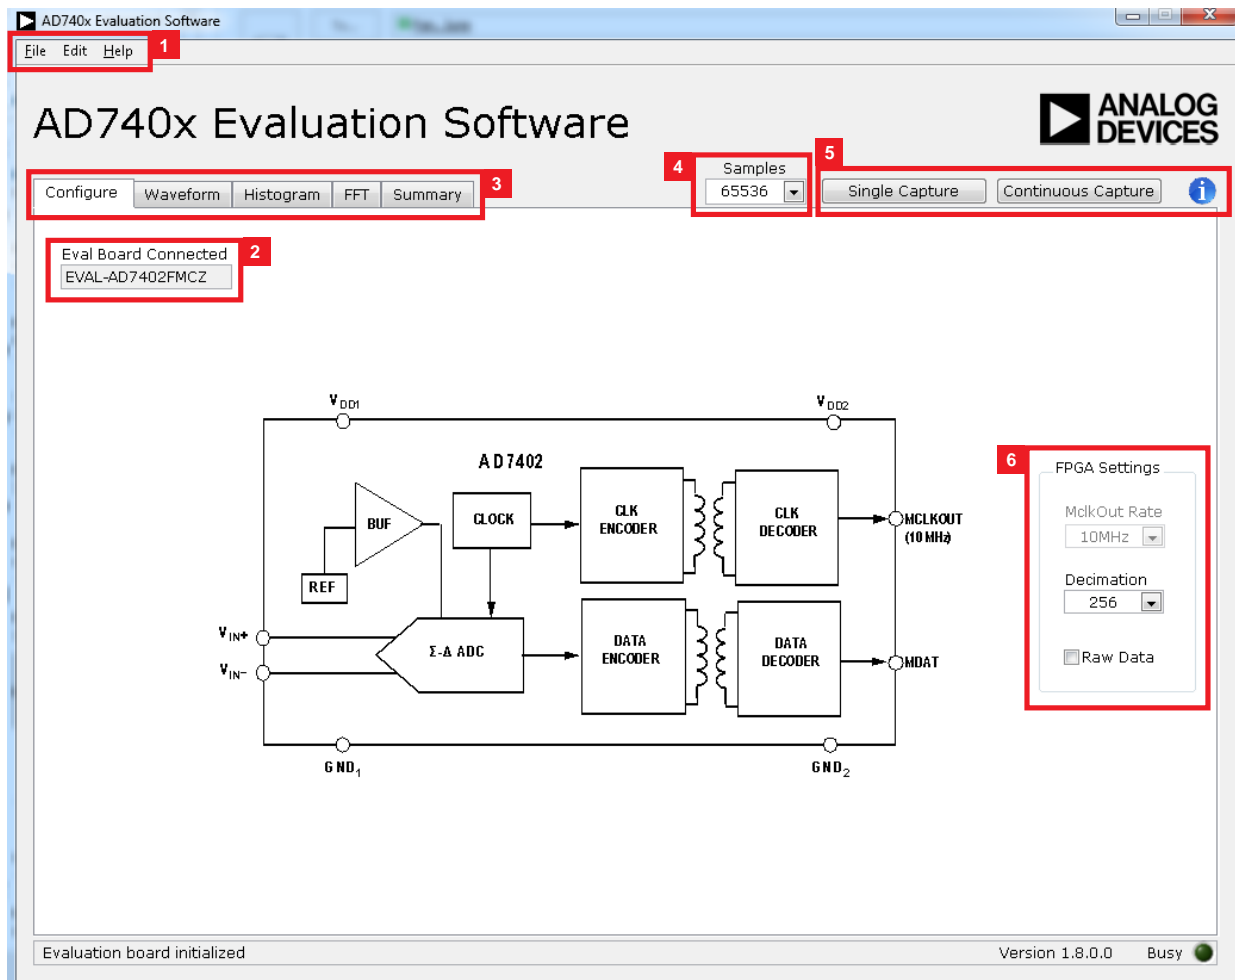

Figure 14. Evaluation Software Main Window
1. From the **Start** menu, click **Programs > Analog Devices > AD7402-8**. The main window of the software opens (see Figure 14).
The main window of the software is shown in Figure 14 and has the features described in this section. These features include the following:
The menu bar (labeled 1 in Figure 14) consists of the **File**, **Edit**, and **Help** menus.
- The **Eval Board Connected** box (labeled 2 in Figure 14) indicates whether the **EVAL-AD7402-8FMCZ** board has been detected.
- The **FPGA Settings** section (labeled 6 in Figure 14) specifies the MCLKOUT frequency used for the serial interface and the decimation ratio used by the FPGA to filter the data.
- The **Samples** drop-down box (labeled 4 in Figure 14) allows selecting the number of samples to be captured in a single acquisition.
- Clicking **Single Capture** (see label 5 in Figure 14) initiates the sampling and readback of the number of measurements defined in the **Samples** box.
- Clicking **Continuous Capture** (see label 5 in Figure 14) performs a continuous capture from the ADC. Clicking **Continuous Capture** a second time stops sampling.
There are five tabs available in the tabs area (labeled 3 in Figure 14) of the main window: **Configure**, **Waveform**, **Histogram**, **FFT**, and **Summary**. These tabs are used to switch among device configuration, waveform analysis, histogram analysis, FFT analysis, and a summary of the last capture.